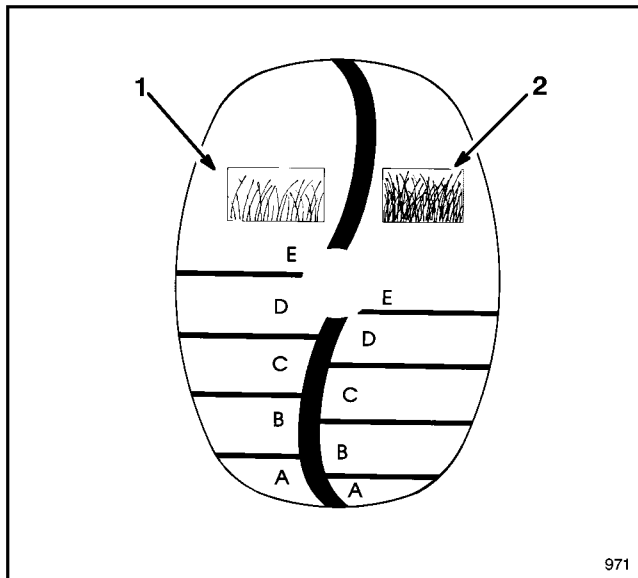

Figure 15
The SmartWheel has two cutting scales — SPARSE/NORMAL and LUSH — to ensure the best height-of-cut setting in any mowing condition (Fig. 15). Use the SPARSE/NORMAL scale during the warm summer season for the majority of your mowing. The LUSH scale is for thick, moist, succulent grass that grows most often in the spring.
1. Before starting the engine and beginning to mow, push the mower into the grass. Stop when the letters on the SmartWheel™ design on the rear left wheel are upright (Fig. 15).
2. Using the color coded SmartWheel design (Fig. 15), compare the tips of the grass blades to the colors/letters on the wheel. Whichever color/letter the tips of the grass blades correspond with is the proper cutting height.